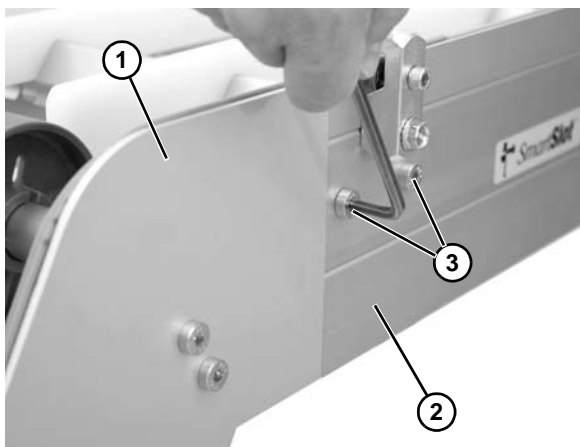

Figure 7
2. Attach upper knuckle (**Figure 7, item 1**) to frame (**Figure 7, item 2**) with socket head screws (**Figure 7, item 3**). Repeat on other side.